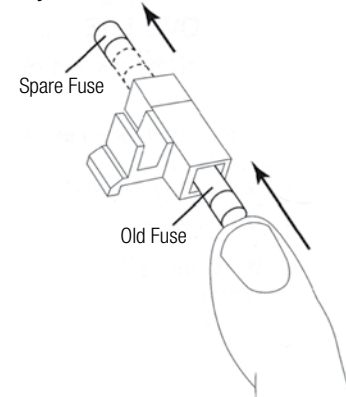

FIGURE 2
7. Push the old fuse far enough into the hold of the fuse assembly to release the spare fuse (Fig. 2).